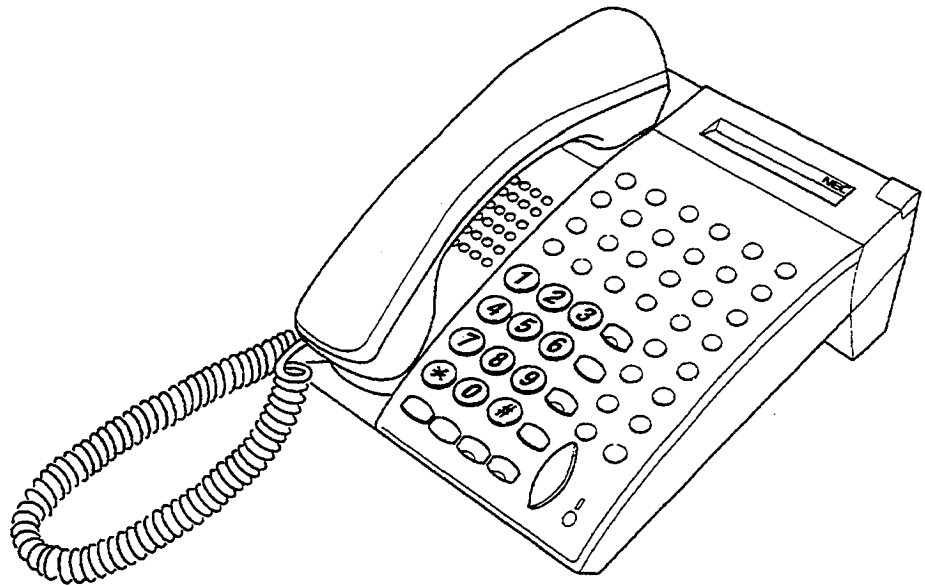

Figure 1-43 DTU-32-() (BK)/(WH) TEL
7.2.4 DTU-32-() (BK)/(WH) TEL
This non-display digital multiline terminal has 32 programmable line keys (each with a two-color LED), built-in speakerphone, built-in headset jack, a Large LED to indicate incoming calls and messages, and compatibility with the ADA-U, APR-U, and HFU-U Units. Refer to Figure 1-43 - DTU-32-() (BK)/(WH) TEL.